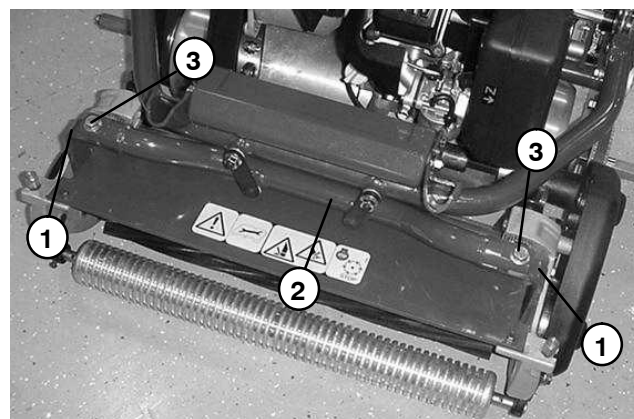

Figure 3
4. Remove two cap screws securing cutting unit pivot arms to traction unit frame tube (Fig. 3).